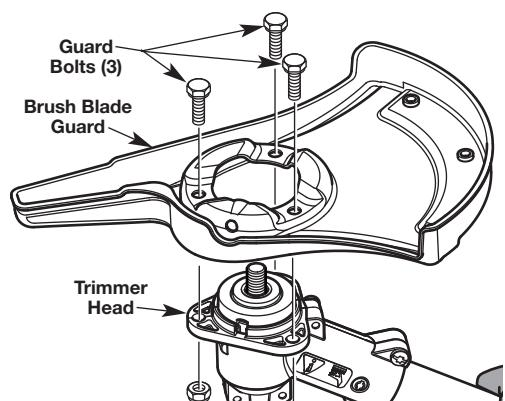

Fig. 8
- While holding the locking rod, remove the cutting head attachment by unscrewing it clockwise (Fig. 8). Store the cutting head attachment for future use.